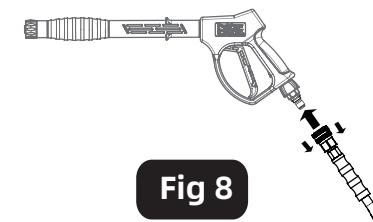

Fig 8
- b. Attach the high-pressure hose to the spray gun by pulling back on the quick connect collar of the high-pressure hose, slide the fitting on the spray gun into the quick connect and release the collar. Pull firmly on the hose to ensure it is secure. Figure 8